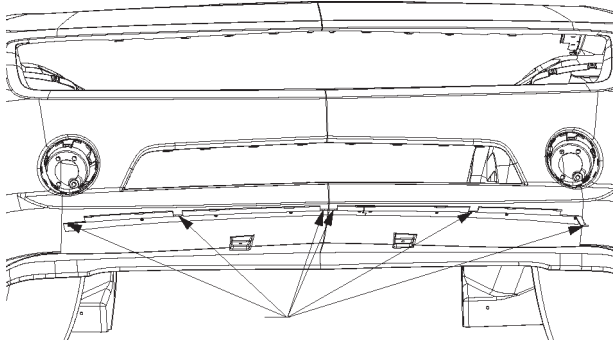

FIGURE 52
9. Drill (9) 3/16" holes into vehicle fascia, using clamp holes as a guide.
11. Snap off the 6 locating tabs from the RH & LH large clamps, and remove tape. Refer to figure 52.